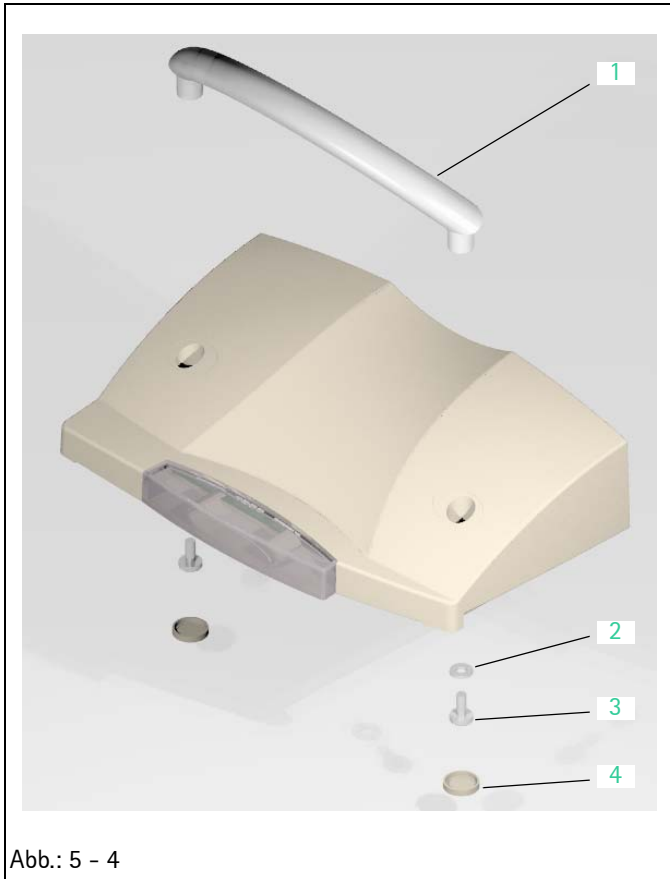

Abb.: 5 - 4
1. Pierce two cover caps (Abb.: 5 - 4 / Item 4) on the housing bottom part with a screwdriver and pull caps out.
2. Unscrew two fillister-head screws (Abb.: 5 - 4 / Item 3) and remove screws together with washers (Abb.: 5 - 4 / Item 2).
3. Pull the handle (Abb.: 5 - 4 / Item 1) upward and out the housing upper part.
Legende zu Abb. 5 - 4: